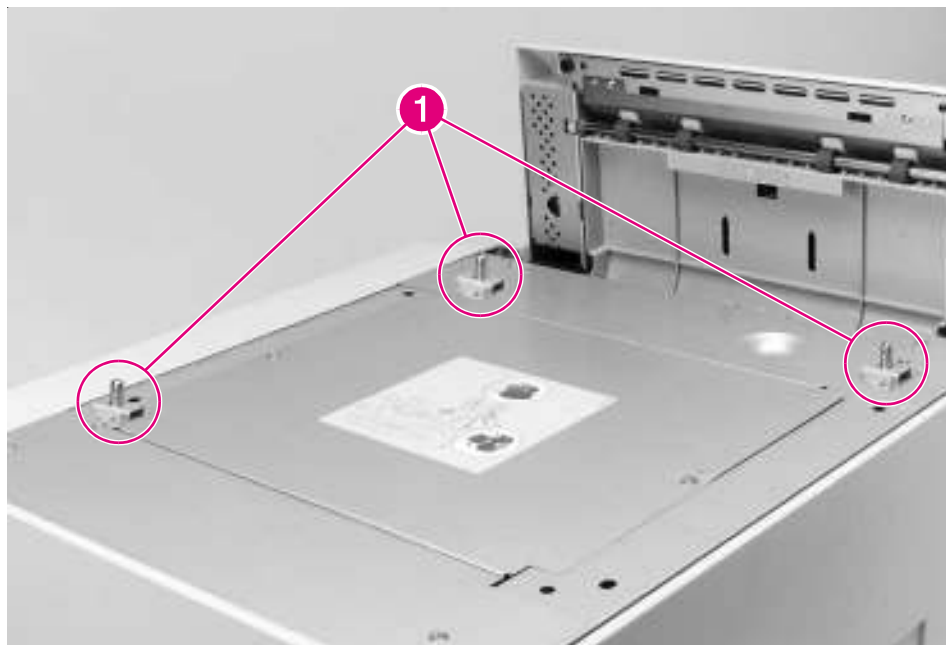

Figure 6-80 2000-sheet Input Tray Locating Pins
- 2 Locate the 3 Locating Pins on the top of the 2000-sheet Input Tray (Figure 6-80, callout 1), and remove the 2 screws on each Locating Pin.